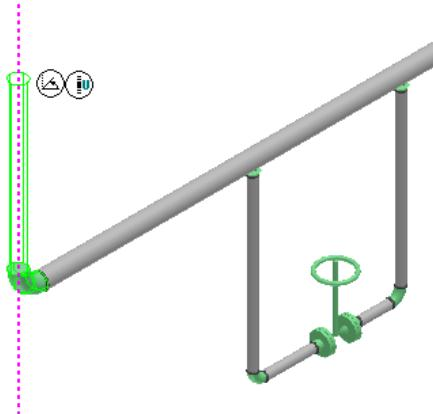

Figure 34: Placed Pipe Run
26. Select the end feature of the pipe to start the routing. You now see an outline of the pipe run in your model now. Click in the graphic view to place the pipe run, as shown in Figure 34.